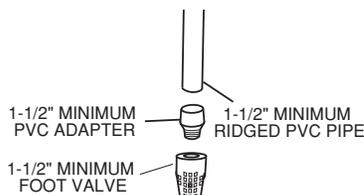

Figure 3
Installation (Figure 3)
- All dual voltage units come factory preset for 230 Volts (Figure 3).